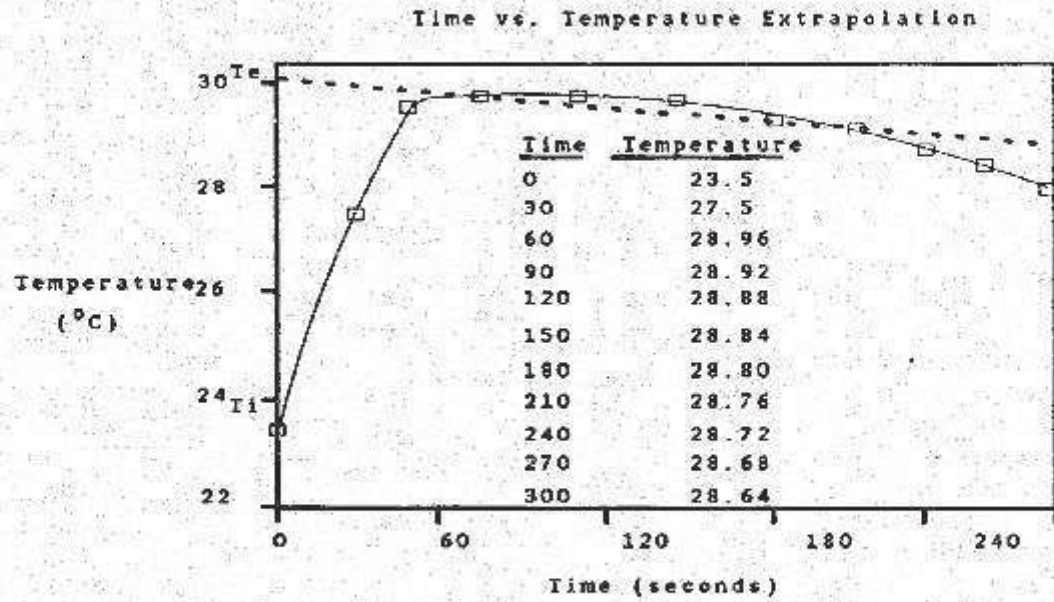

FIGURE 1
a. After plotting your data points of temperature vs. time, draw a smooth curve through these points. Your initial point at time = 0 will have the initial temperature ( $T_i$ ) of the solution prior to mixing (refer to Figure 1). Draw a straight line from your "stabilized" data (data recorded over the one minute intervals) back to the Temperature axis. This is your extrapolation. The extrapolated temperature,  $T_e$ , is the temperature where this extrapolation line intersects the y-axis.